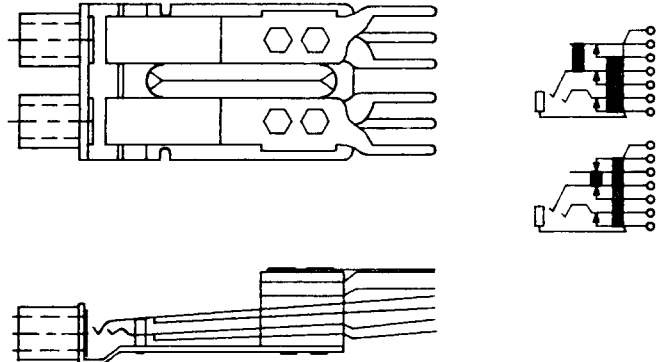

Fig. 5—655AM Jack
**2.05 655AM:** The 655AM jack is a singly-mounted, 3-conductor, twin-type jack (Fig. 5) for mating with a 338- or similar-type twin plug. Each jack's tip and ring elements contains an isolating (break) contact with one twin having an insulated break contact and the other an insulated make contact. All terminals are equipped for solderless wrap connections and the frame has one centrally located mounting hole. The jack is used on the DSX1 interbay patching jack circuit.